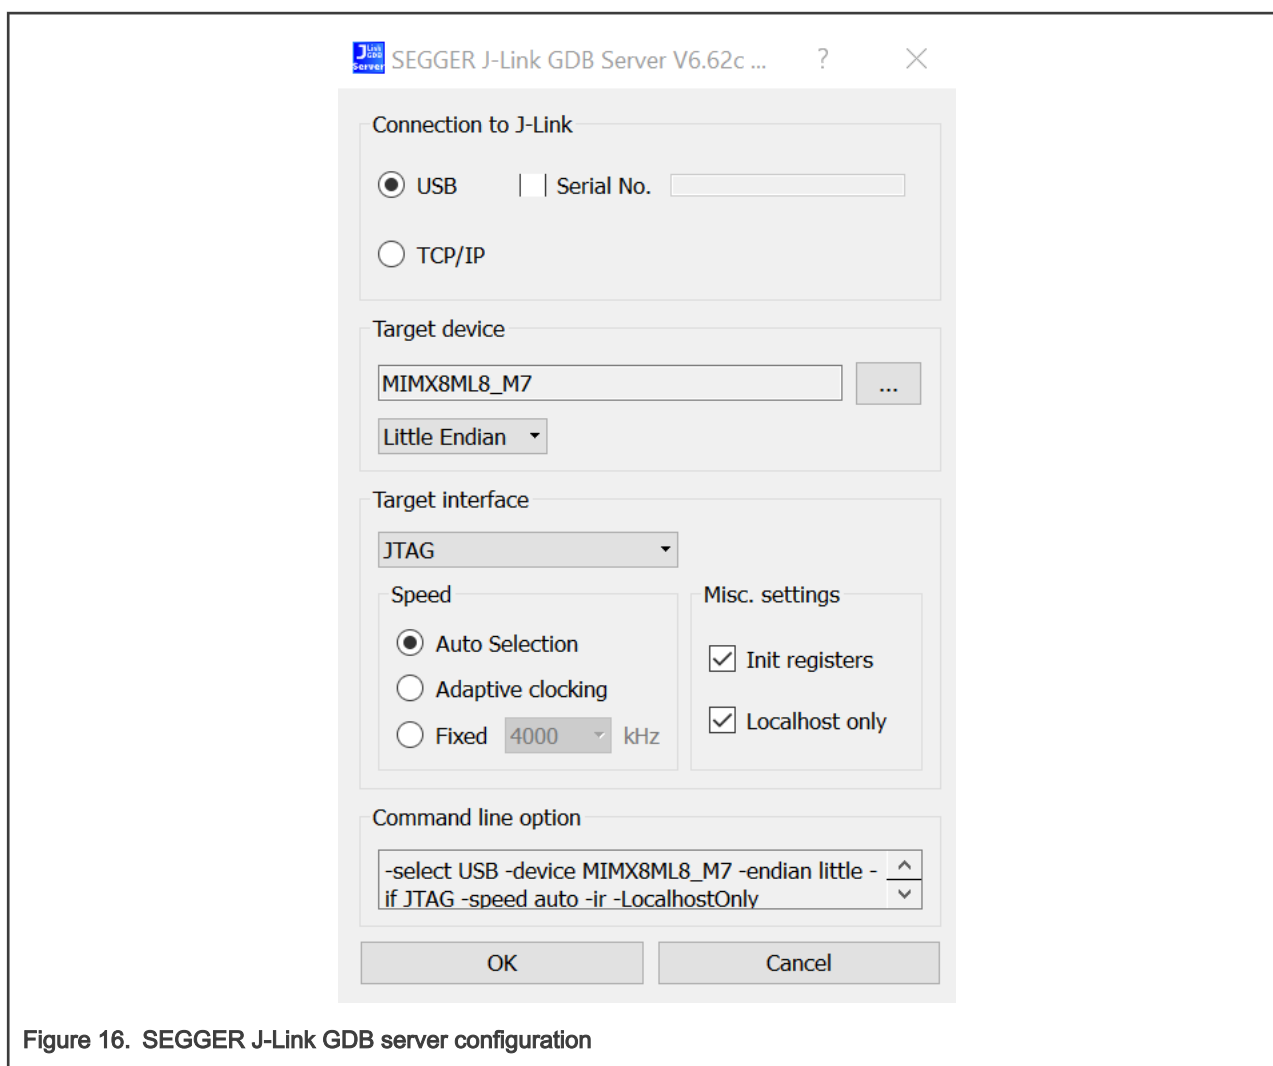

Figure 16. SEGGER J-Link GDB server configuration
4. Modify the settings as shown in Figure 16. The target device selection chosen for this example is MIMX8ML8\_M7 .